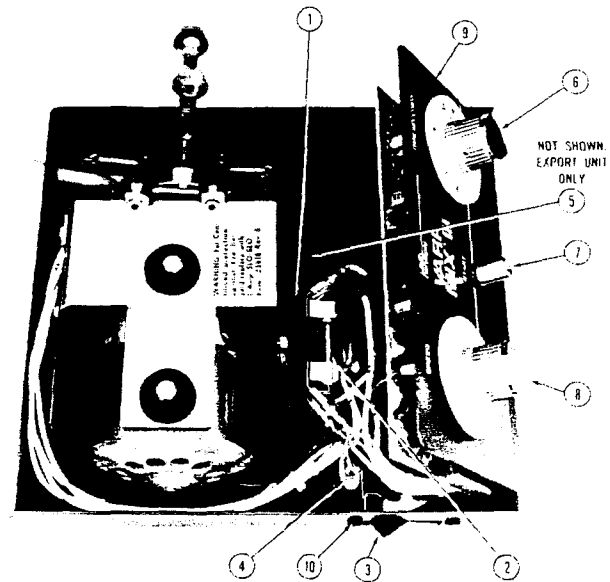
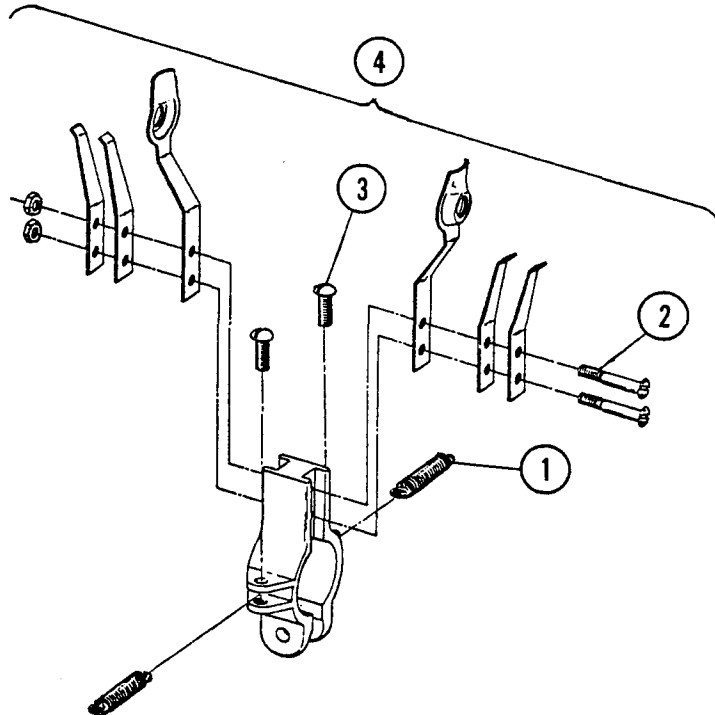

Figure 4. Component Removal — Left Side
Figure 5. Capsule Arms and Backup Springs
2. REMOVING "ON/OFF" SWITCH — See Figure 4.
- a. Remove two pan head screws (10) securing switch (3) to base assembly.
3. CAPSULE ARM AND BACKUP SPRING REPLACEMENT — See Figure 5.
- a. With the unit housing removed, disconnect the bearing clamp springs (1) from the spring holder arm.
- b. Remove capsule holder arms and backup springs by removing the two screws (2). Discard all removed parts.
- c. Assemble the new capsule holder arms and backup springs to the yoke using the new screws, lockwashers, and nuts supplied in the kit. Refer to Figure 5 for proper positioning of parts. Tighten the screws as securely as possible, using screwdriver and 1/4-inch wrench.
- d. Assemble the new extension springs and spring screws to the yoke. Turn the screws (3) into the yoke. Turn only until the head contacts the yoke flange.